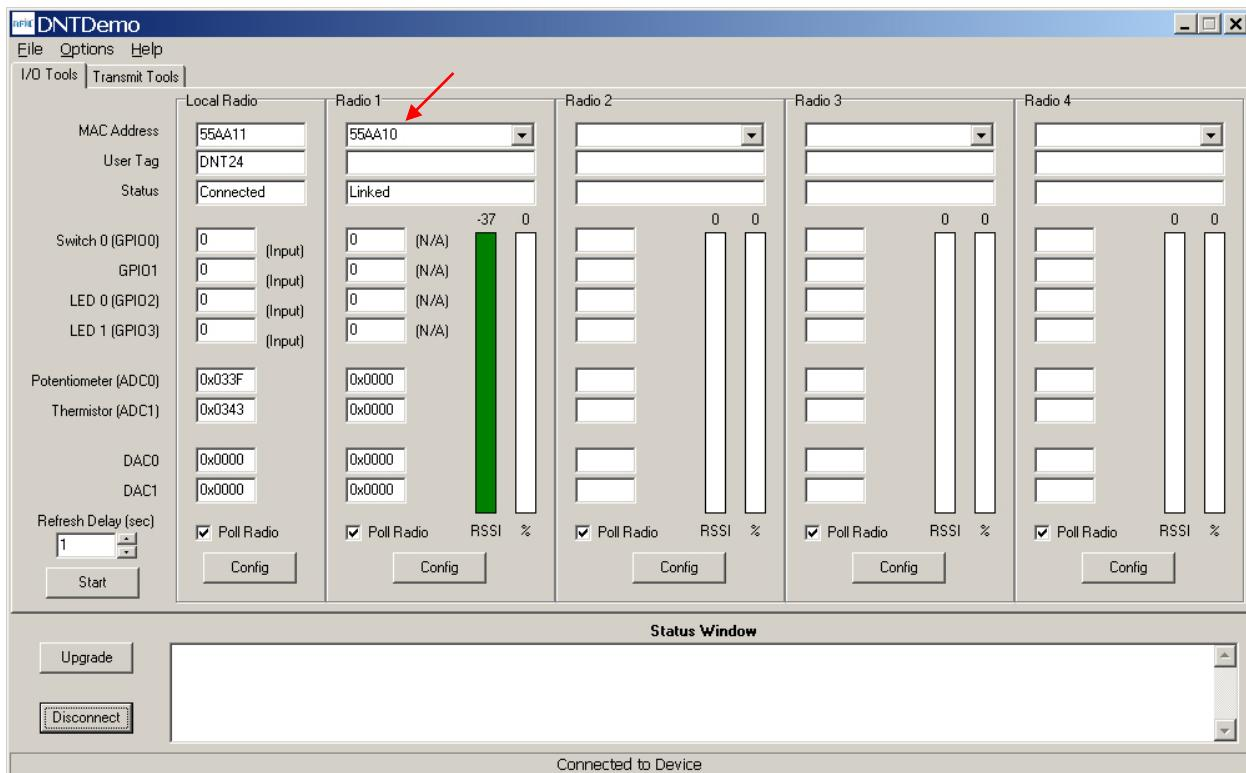

Figure 8-7 Local Radio Column
3. At this point the utility program will collect data from the Base, filling in the *Local Radio* column as shown in Figure 8-7.